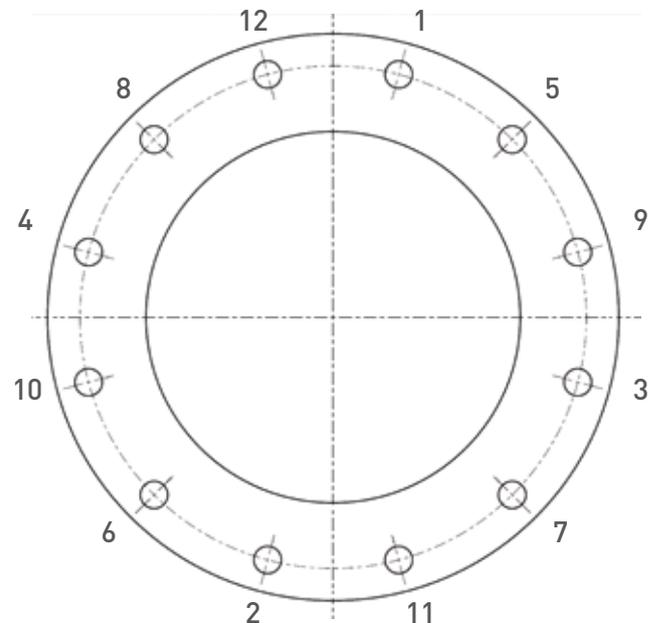

Figure 4: sample of flange DN300
Tighten bolts gradually in a star-shaped pattern (see figure 4).
- Tighten bolts gradually in a star-shaped pattern (see figure 4 – order from 1 to 12).